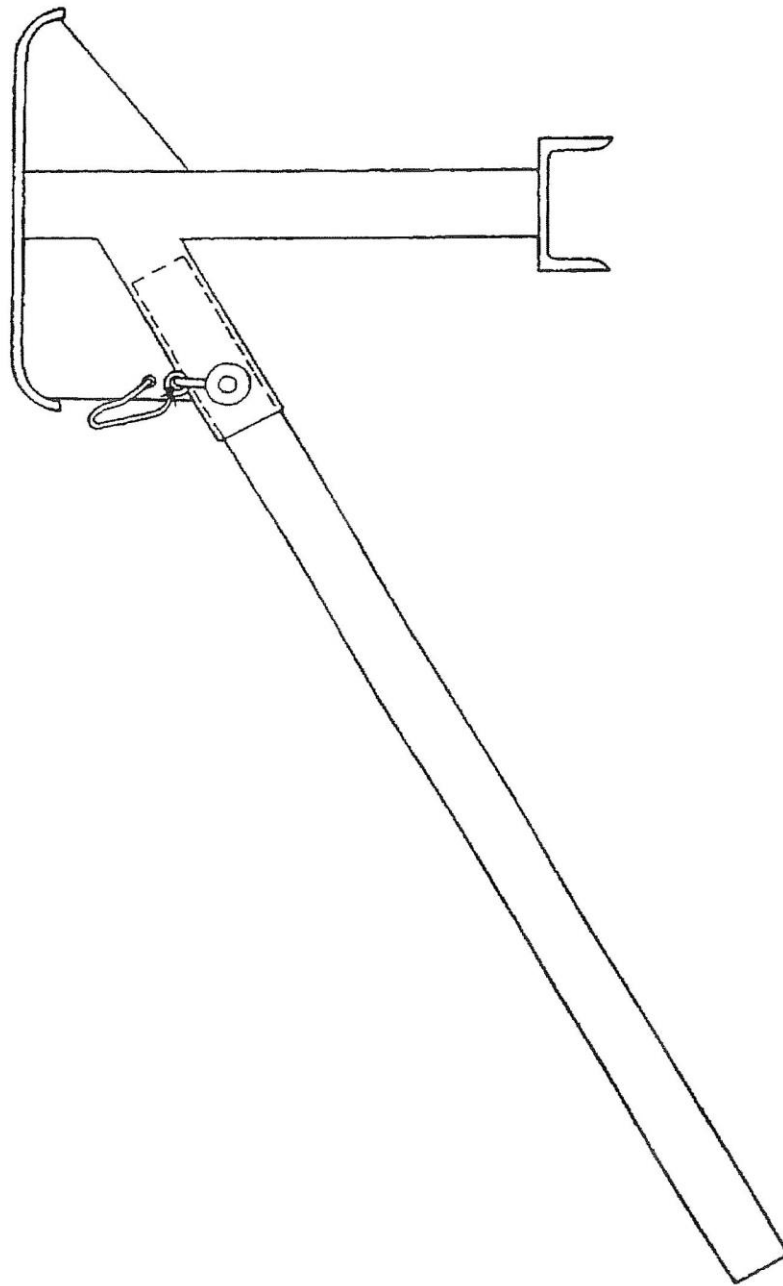

Figure 3-6. Stand Assembly. part No. 7947145
- Stand assembly, lift general purpose. (Local manufacture in accordance with Air Force drawing 7947145.) See Figure 3-6. Work stand can be used for raising support